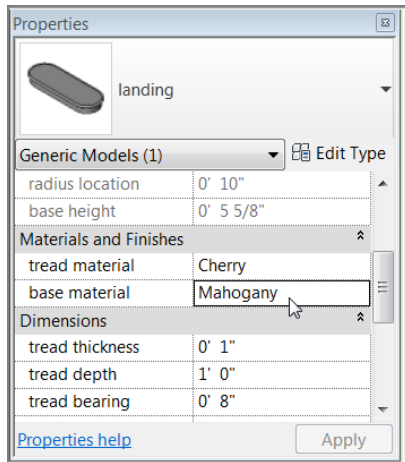

FIGURE 10.69: Changing the landing material to match the theme of the staircase
9. Change Base Material to Mahogany, and click OK (see Figure 10.69).